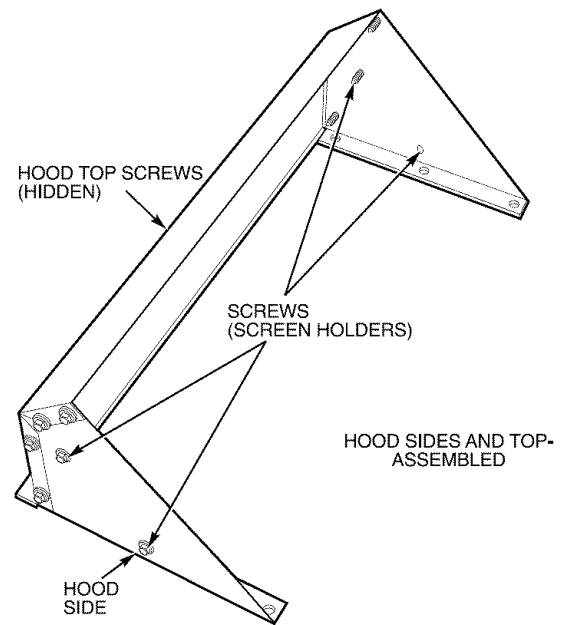
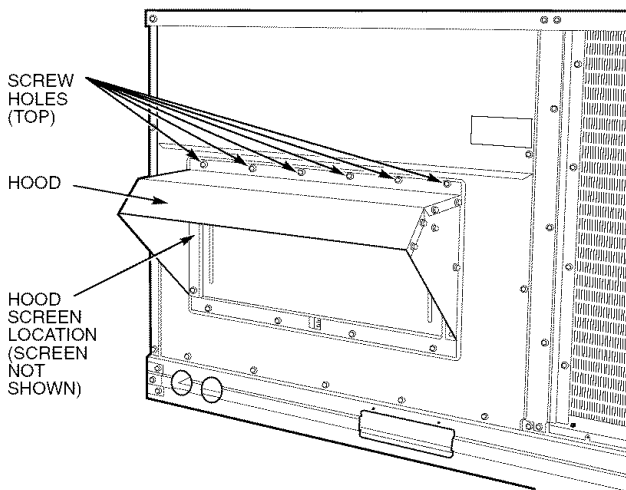

Fig. 13 — Outdoor-Air Hood Details
Fig. 14 — Optional Manual Outdoor-Air Damper with Hood Attached
5. Place the hood on the front of the outdoor air opening panel. See Fig. 13 for hood details. Secure the top of the hood with the 6 screws removed in Step 3. See Fig. 14.
7. Align the screw holes on the hood with the screw holes on the side of the manual outdoor-air damper. See Fig. 13 and 14. Secure the hood with the 8 screws from Step 6.
9. Remove and save the screws currently on the sides of hood. Insert the screen. Secure the screen to the hood using the screws. See Fig. 14.